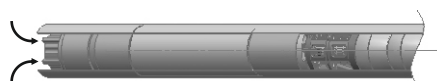

Figure 6-1: Cooling tube
- ⇒ Fit a cooling tube (see figure 6-1)